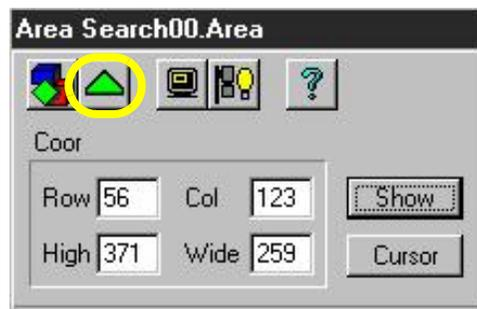

Figure 3-47—Click green triangle to exit Search Area window
- 6d) When the device search area is adjusted, click the green triangle to exit. See Figure 3-47.